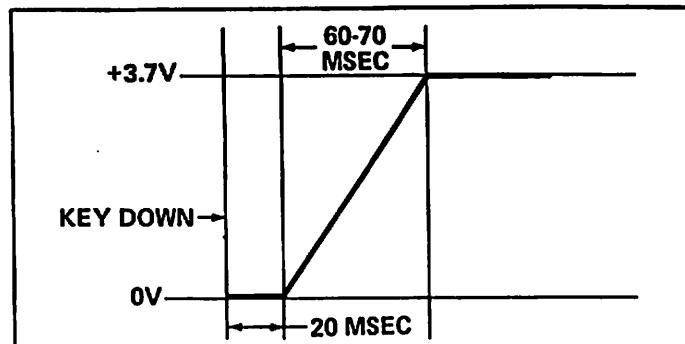

FIGURE 4-9 LOUDNESS ATTACK AT JUNCTION OF R165 AND R166
- b) Depress C key one octave up from bottom of keyboard and adjust amplitude attack trim pot R174 to match the attack contour shown in Figure 4-9.